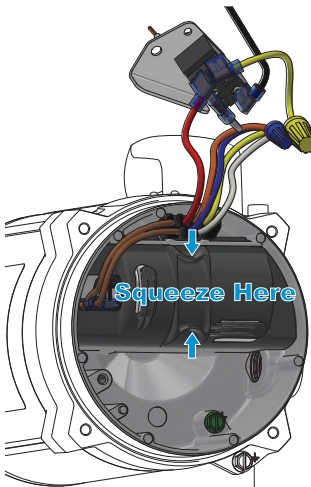

Figure 5
4. Remove the wires from their organizer clips and remove the plastic cover. (see Figure 5)